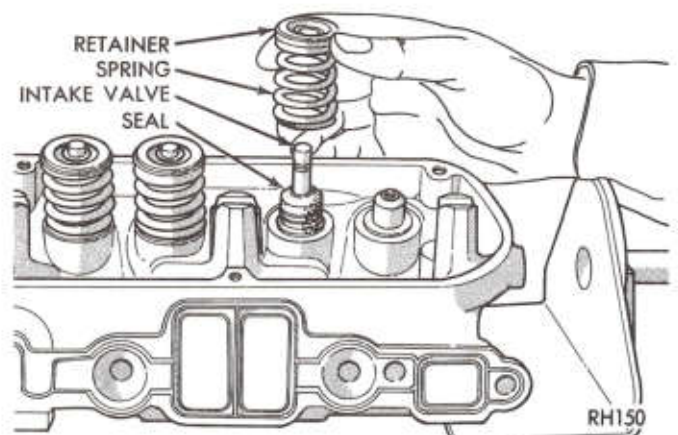

Fig. 21—Installing Valve, Cup Seal, Spring, and Retainer
(3) Install new cup seals on all valve stems and over valve guides (Fig. 21). Install valve springs and valve retainers.
(4) Compress valve springs with Tool C-3422-A, install locks and release tool. **If valves and/or seats are reground, measure the installed height of springs, make sure measurement is taken from bottom of spring seat in cylinder head to the bottom surface of spring retainer (if spacers are installed, measure from the top of spacer).** If height is greater than 1-11/16 inches, (42.86mm), install a 1/16 inch (1.587mm) spacer in head counterbore to bring spring height back to normal 1-5/8 to 1-11/16 inch (41.27 to 42.86mm). Exhaust valve springs with positive rotators should have a length of 1.45-1.51 inch (36.8-38.1mm) when the valve is closed.